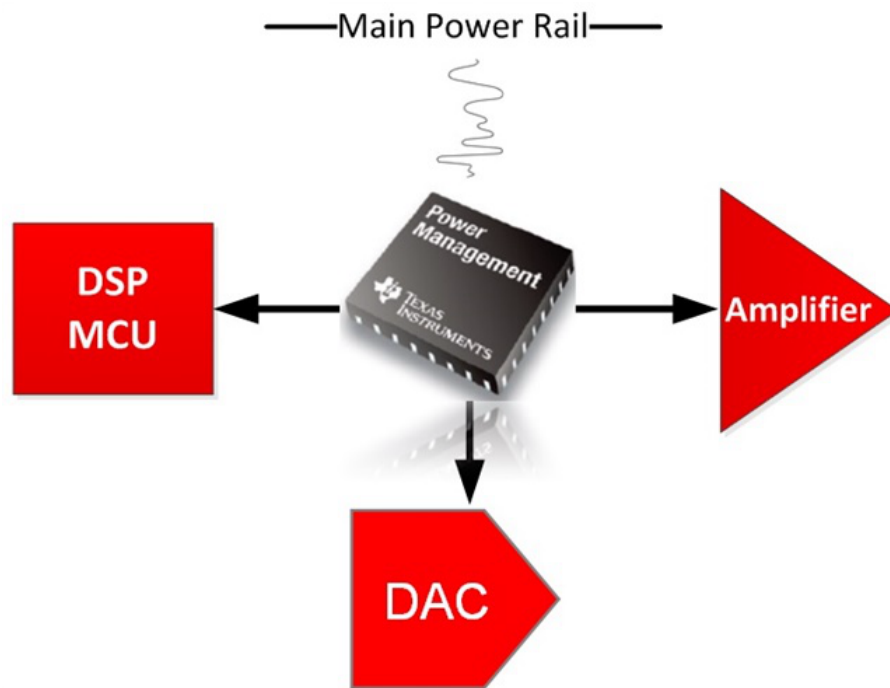

Figure 1. Main components for Hi-Fi audio systems
Figure 1 shows the main components that contribute to Hi-Fi audio; at the center of the diagram is the power management (PM) system. The PM directly affects every component in the audio signal chain. It's essential to design a low-noise and low-ripple power supply to avoid unwanted signals that can affect the noise-sensitive components in the systems.